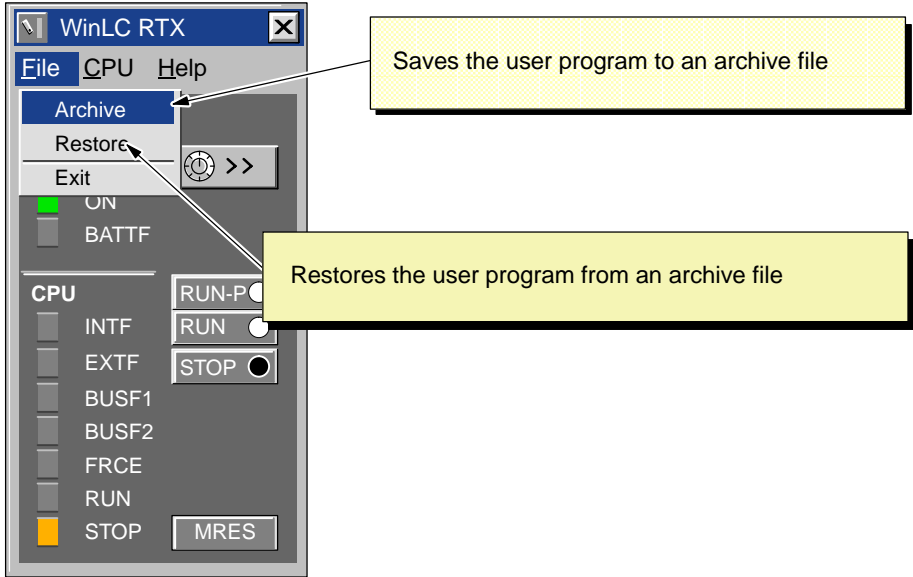

Figure 4-24 WinLC RTX Archive and Restore Commands
As shown in Figure 4-24, you create an archive file by selecting the **File > Archive** menu command from the control panel. A dialog box allows you to save the archive file under a specific name. This allows you to store different archive files.
3. Select the **File > Restore** menu command from the control panel (as shown in Figure 4-24).